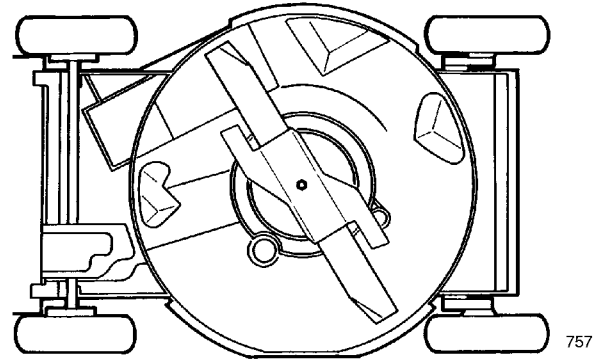

Figure 21
3. Tip mower on its left side (Fig. 21). Avoid rotating the blade because starting problems may result.